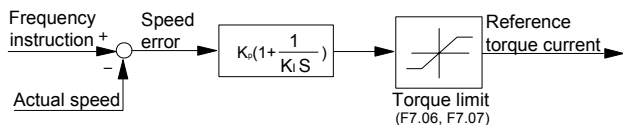

Figure 6-15 Simplified speed regulator diagram
1. Structure of speed regulator (ASR) is shown in Figure 6-15, where K_p is proportional gain P, and K_i is integral time I.